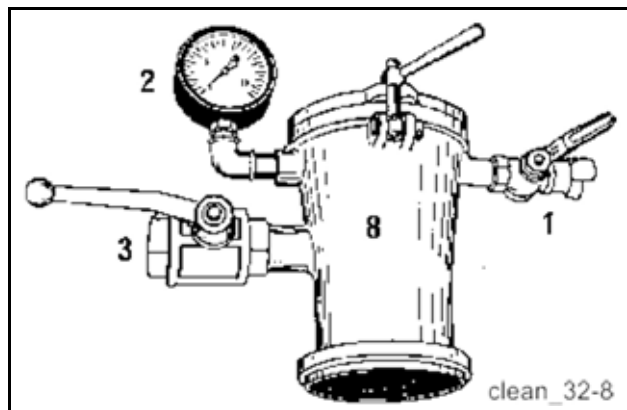

Fig. 234 Cleaning head
7. The cleaning head must be equipped with a functioning pressure gauge (2) and a large-dimensioned blow-out cock (3) (**Fig. 234**).
10. Only work on unpressurised pipelines. Open blow-out cock (3) (**Fig. 234**). Concrete emerging under pressure can injure persons.